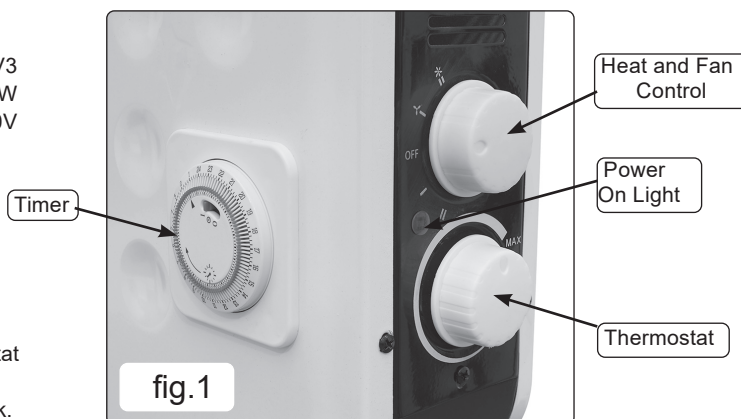

fig.1
4.3.1. Plug the heater into the mains supply, turn the thermostat knob (fig.1) clockwise to a high setting.